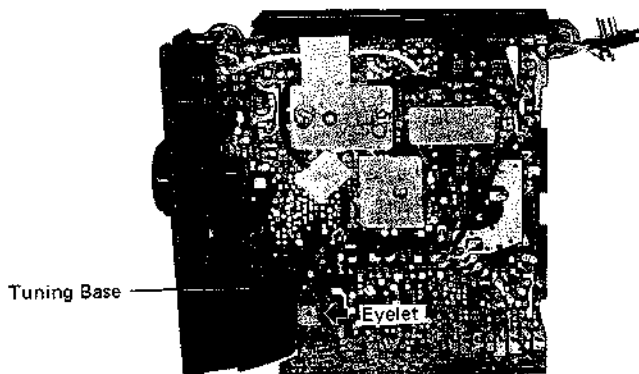

Fig. 6
3. Remove an eyelet fastened the printed circuit board for TV from the reverse side of the board. (Fig. 6)